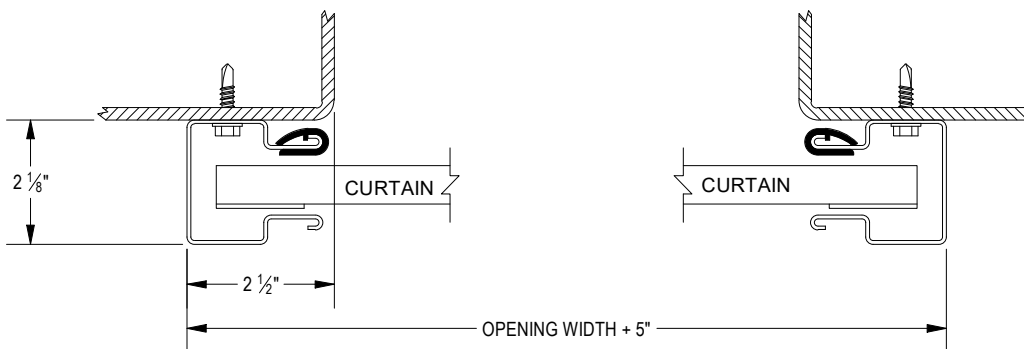

FIGURE 8: STEEL JAMBS
- **STEEL JAMBS:** $\frac{1}{4}$ " - 14 X 1" TEKS **See Page 9, Figure 8.**